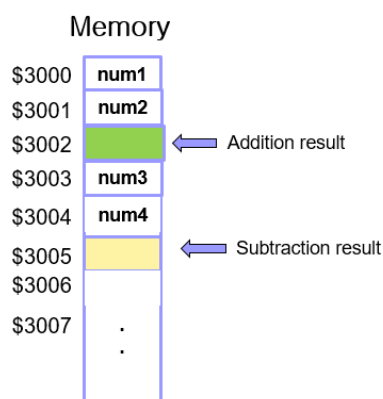

Figure7. Initial Data
11. The data (operands) of the addition and subtraction instructions are shown in the table in Figure 7. Initialize four memory locations as shown in the table in Figure 7. These are the data to be used by your instructions: